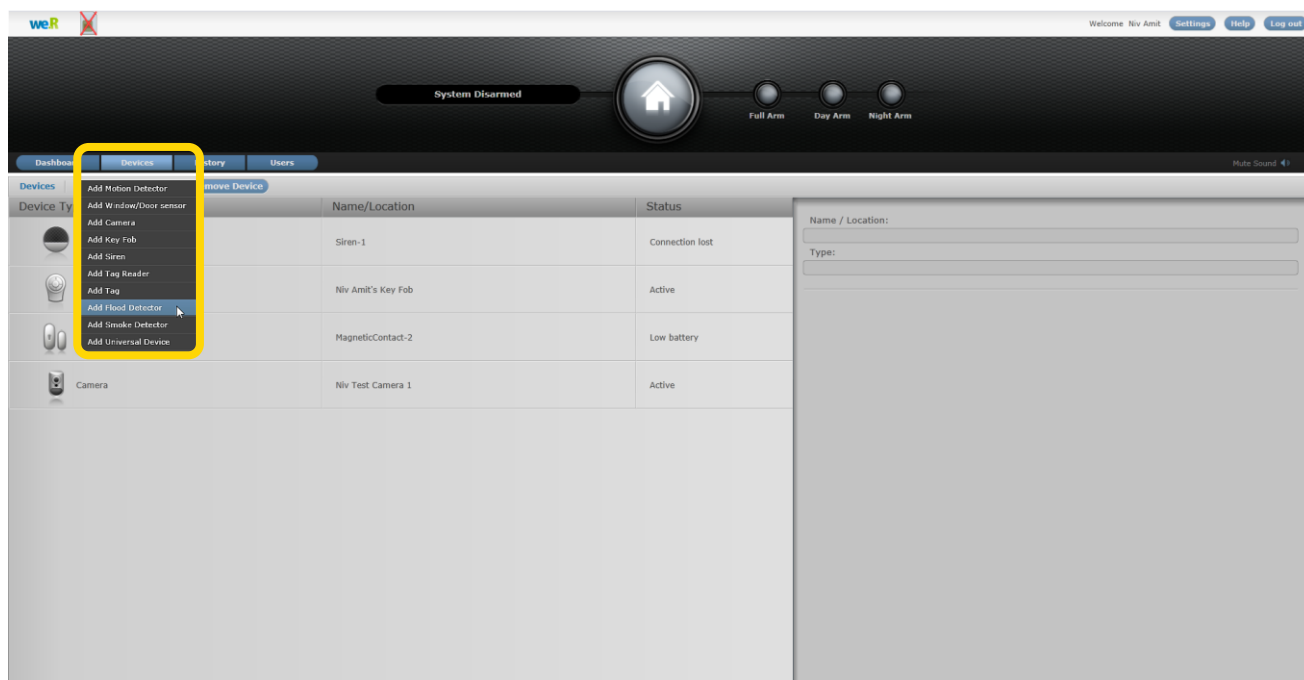

Figure 121: Add Flood Detector Device Utilizing Web Application
5. Click over the **Add Flood Detector** option of the menu as illustrated in Figure 121 above: